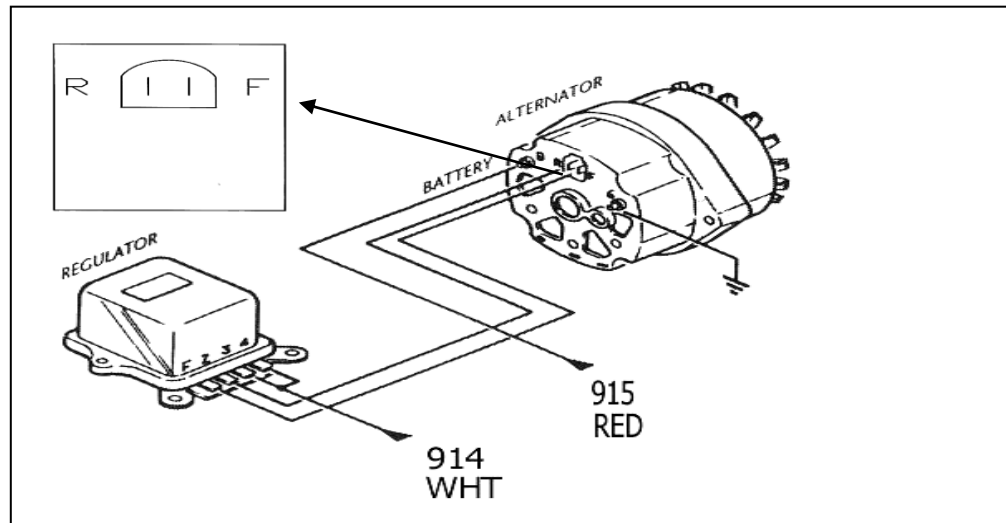

Figure 8.3 Early GM Alternator - External Regulator
8.3 GM Alternator - External Regulator. See Figure 8.3.